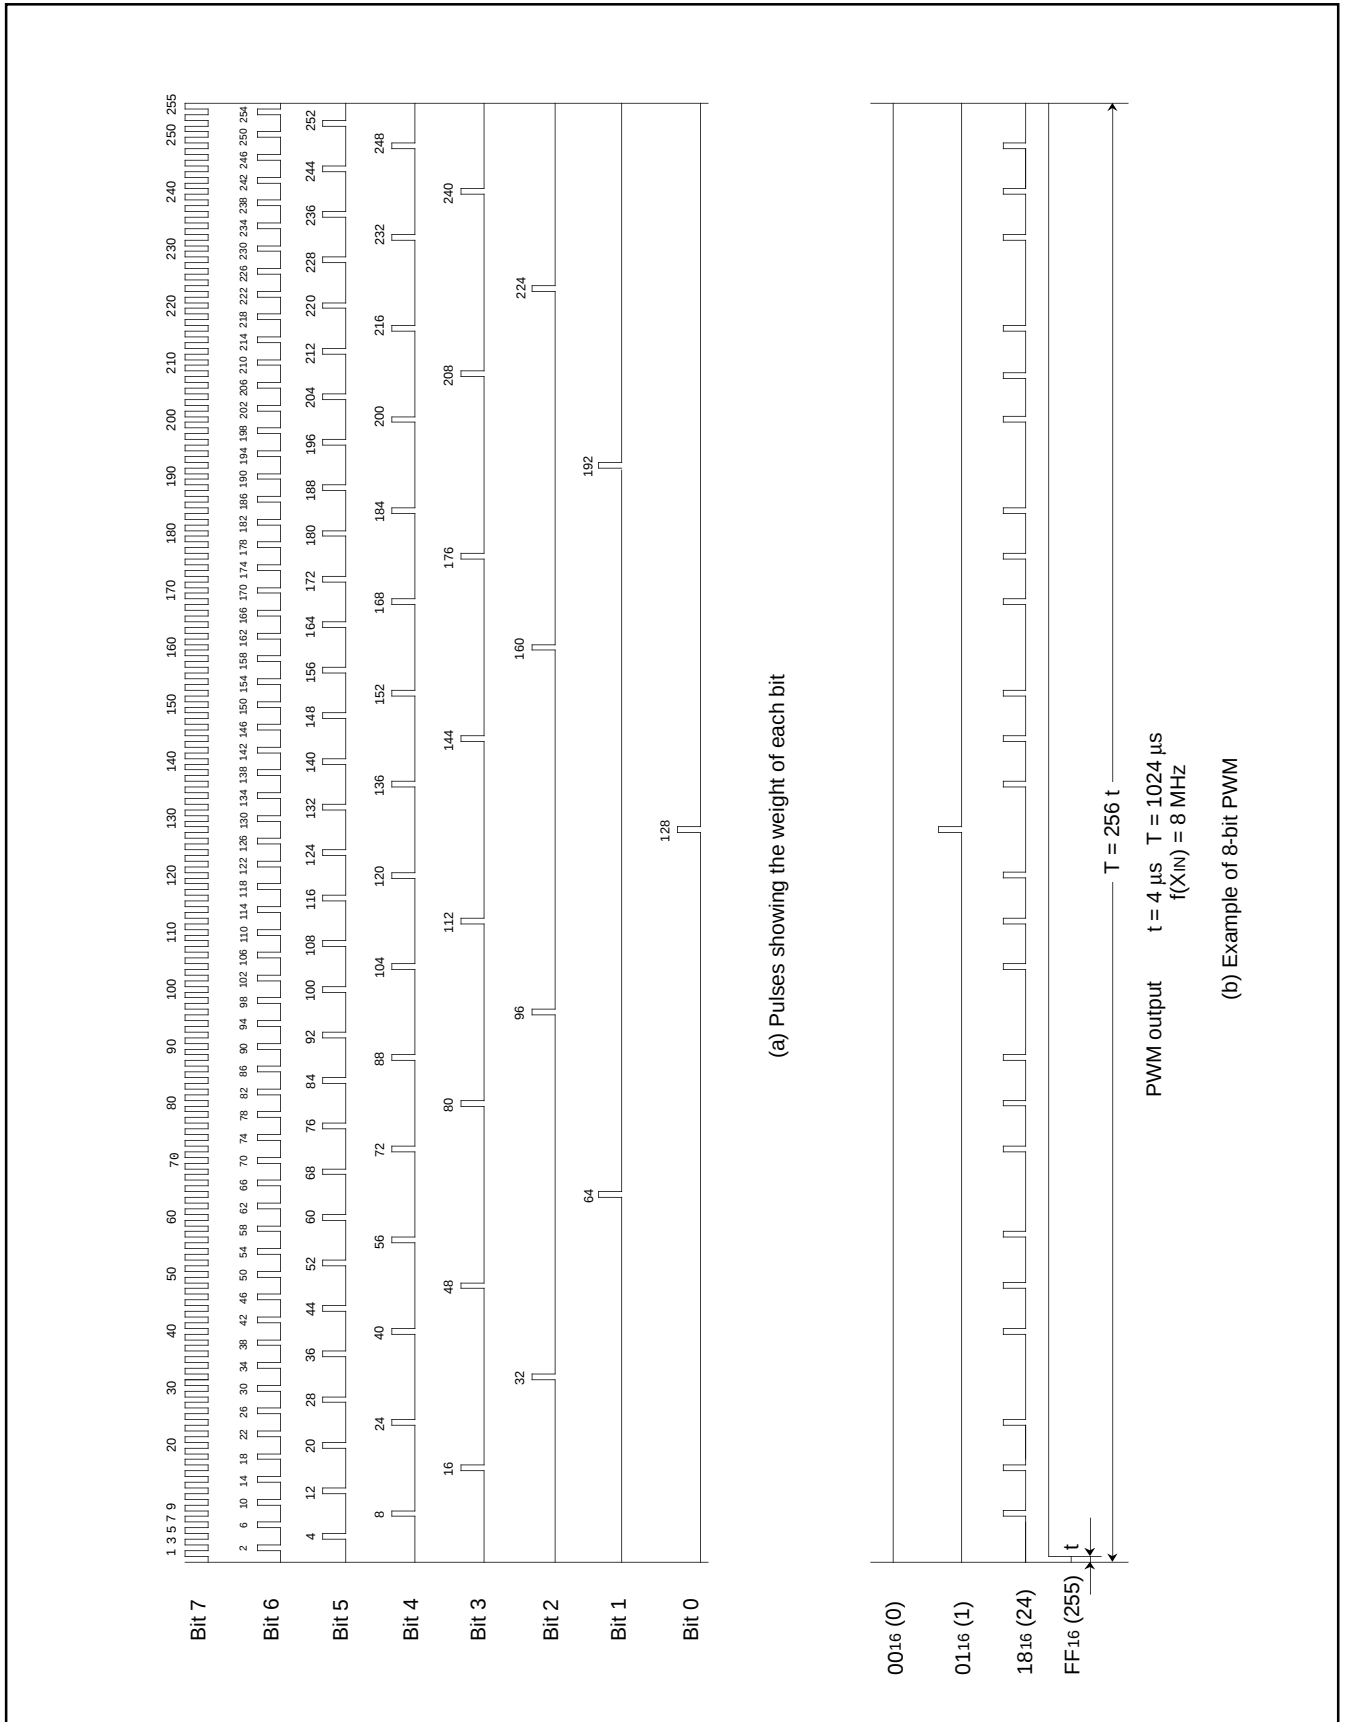

Fig. 17. 8-bit PWM Timing
Figure 17 shows the 8-bit PWM timing. One cycle ( $T$ ) is composed of  $256\ (2^8)$  segments. The 8 kinds of pulses relative to the weight of each bit (bits 0 to 7), are output inside the circuit during 1 cycle. Refer to Figure 17 (a). The 8-bit PWM outputs waveform which is the logical sum (OR) of pulses corresponding to the contents of bits 0 to 7 of the 8-bit PWM register. Several examples are shown in Figure 17 (b). 256 kinds of output (HIGH area: 0/256 to 255/256) are selected by changing the contents of the PWM register. A length of entirely HIGH cannot be output, i.e. 256/256.